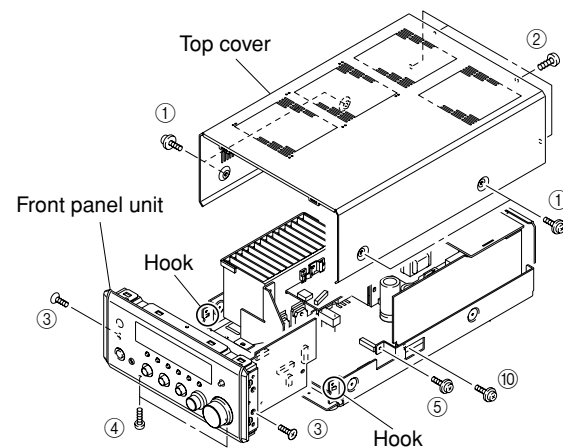
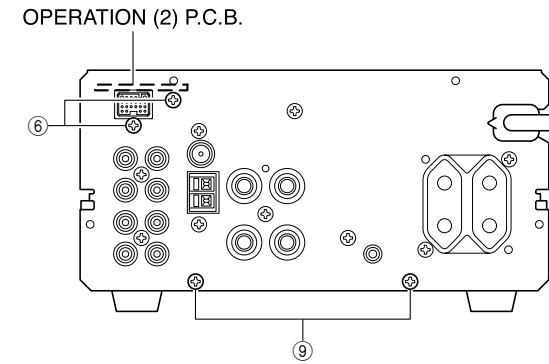
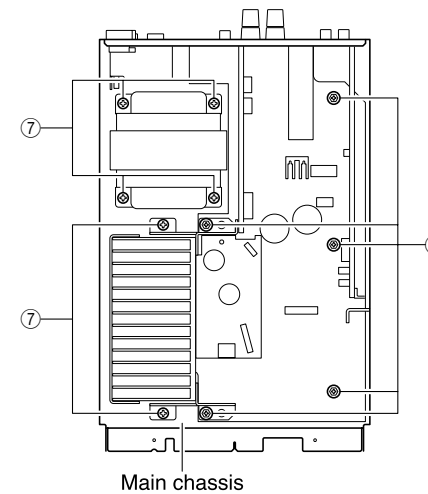

Fig. 1
Fig. 3
Fig. 4
- a. Remove 4 screws (①) and 4 screws (②). (Fig. 1)
- b. Lift the top cover at the rear and move it rearward slantingly. (Fig. 1)
- b. Remove 2 screws (③), 2 screws (④) and 1 screw (⑤). (Fig. 1)
- c. Release 2 hooks and remove the front panel unit by pulling it forward. (Fig. 1)
- b. Remove 2 screws (⑥). (Fig. 3)
- c. Remove the OPERATION (2) P.C.B. which is connected directly to the lower P.C.B. with connections.
- d. Remove 6 screws (⑦). (Fig. 4)
- e. Remove 5 screws (⑧). (Fig. 4)
- f. Remove 2 screws (⑨). (Fig. 3)
- g. Remove 1 screw (⑩). (Fig. 1)
- h. Reinstall the OPERATION (2) P.C.B..
- i. Reinstall 2 screws (⑥). (Fig. 3)